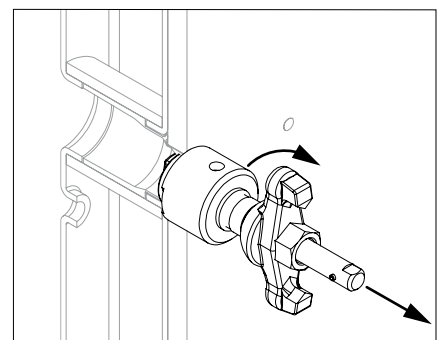

Fig. A14.04b
4. Screw out the extraction head from the sealing. (Fig. A14.04b)